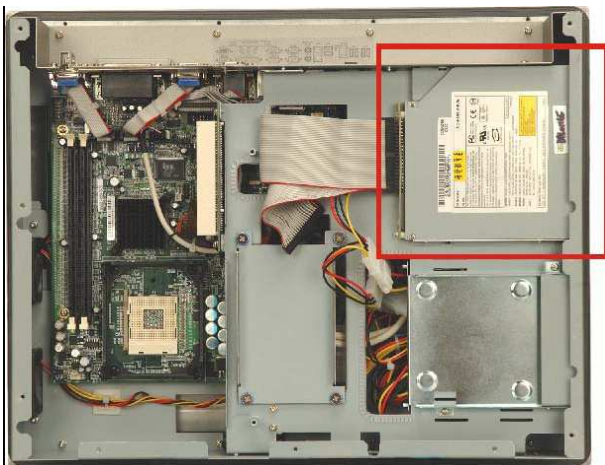

Figure 3-10: CD Drive Installed
Step 10: Connect the CD ribbon cable and the power cable from the connectors on the motherboard and the PSU to the rear of the CD drive. **Figure 3-10** shows a properly installed CD drive.